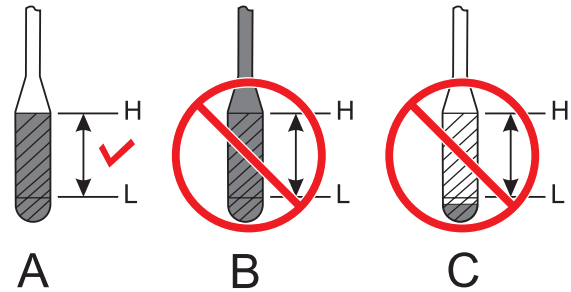

Figure 14. Engine Oil Dipstick
3. Re-Insert dipstick, then remove dipstick from its holder. Check the oil level shown on the dipstick Figure 14.